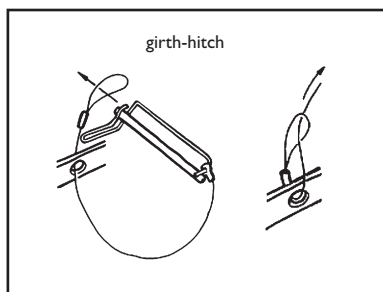

FIGURE 12
4.) To secure the Slider Pin, girth-hitch to your snowboard binding. (See Figure 12)